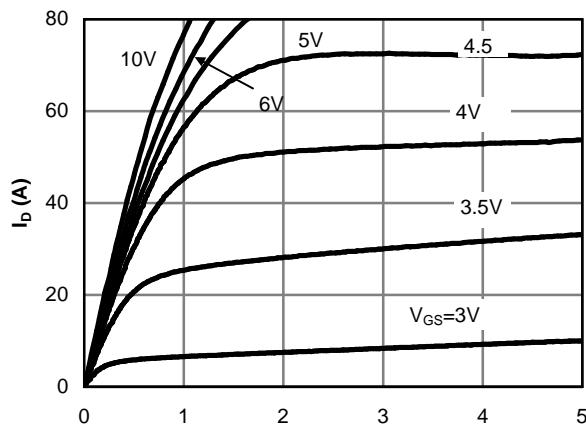

Fig 1: On-Region Characteristics
E. The static characteristics in Figures 1 to 6 are obtained using <300μs pulses, duty cycle 0.5% max.